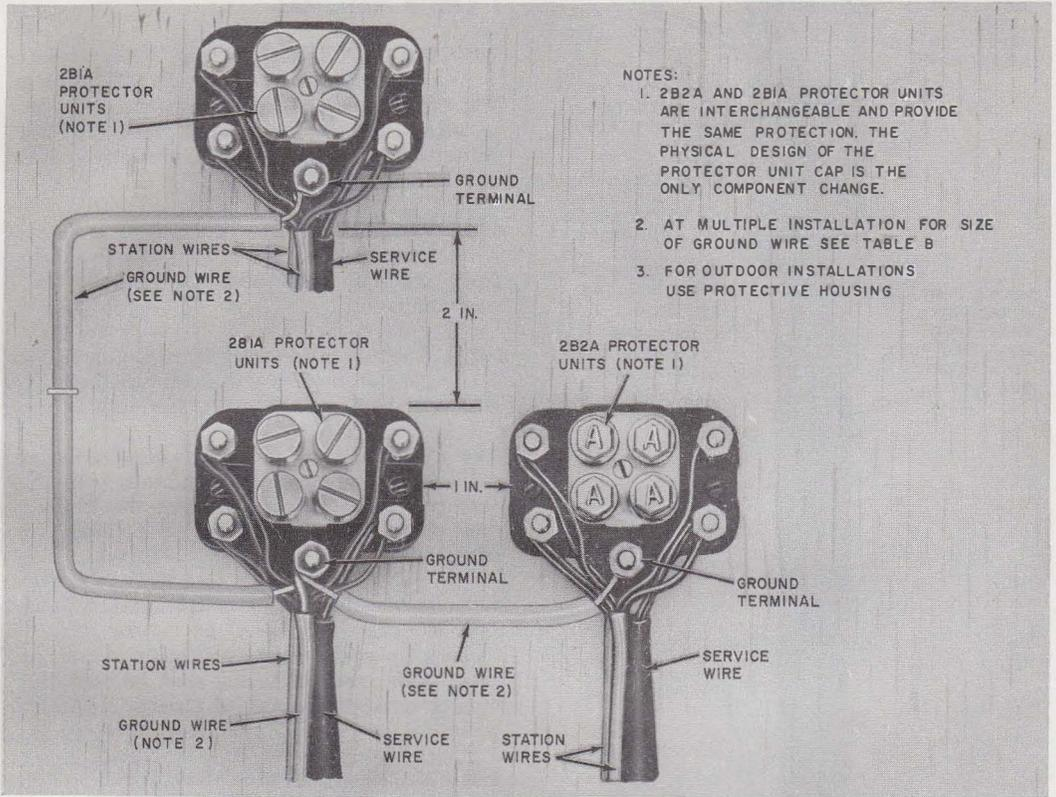

Fig. 29—Installing Protectors in Multiple
4.02 Where more than one protector is installed at the same indoor location, provide a 1-inch separation when protectors are horizontally mounted and a 2-inch separation when protectors are vertically mounted (see Fig. 29). When more than one 123- or 128-type protector is installed at the same outdoor location, the protectors may be installed in a 93D1 protector mounting.